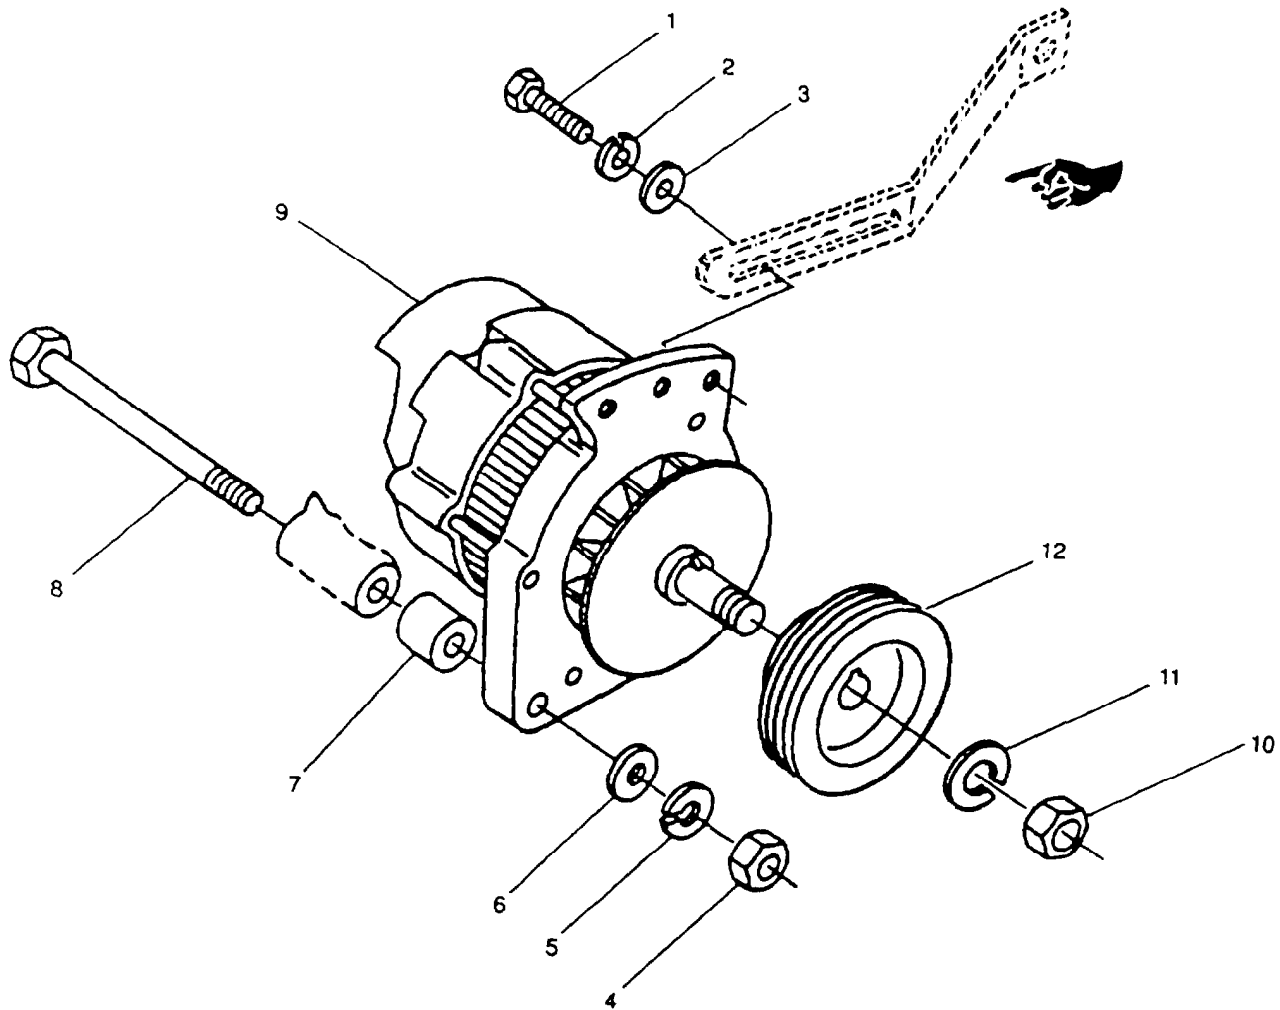

FIGURE 2-5. Battery Charging Alternator
- b. Inspect battery charging alternator (9, FIGURE 2-5) for loose mounting hardware, damaged or loose electrical connections, and other damage.
- b. Inspect battery charging alternator (9, FIGURE 2-5) for loose connections.
- d. Remove bolts (2), washers (3), and right fan guard (4).
- e. Loosen bolt (1, FIGURE 2-5), nut (4), and move battery charging alternator (9) so fan belt (33, FIGURE 2-20) can slip off battery charging alternator pulley and can be removed from crankshaft and water pump pulleys.
- f. Tag and disconnect alternator (9, FIGURE 2-5) electrical leads.
- g. Remove bolt (1), lockwasher (2), and washer (3).
- h. Remove nut (4), lockwasher (5), washer (6), spacer (7), and bolt (8).
- i. Remove battery charging alternator (9) from generator set.
- j. If replacing alternator, remove and retain nut (10), lockwasher (11), and pulley (12) from alternator (9).
- a. If removed, install pulley (12, FIGURE 2-5) on battery charging alternator (9) with lockwasher (11) and nut (10). Torque nut (10) 40 to 50 ft-lbs (54 to 68 Nm).
- b. Position battery charging alternator (9) in generator set.
- c. install bolt (8), spacer (7), washer (6), lockwasher (5), and nut (4).
- e. Install bolt (1, FIGURE 2-5), lockwasher (2), and washer (3).